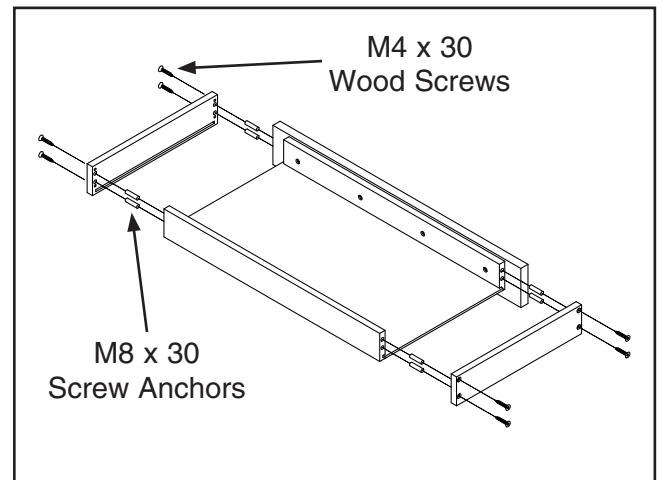

Figure 2. Attaching drawer side panels.
1. Insert the four M8 x 30 screw anchors into the holes at the ends of the front and back drawer panels for both drawers, as shown in **Figure 2**.
- Align the drawer side panels with the drawer sub-assembly, as shown in **Figure 2**, then secure them with the M4 x 30 wood screws.